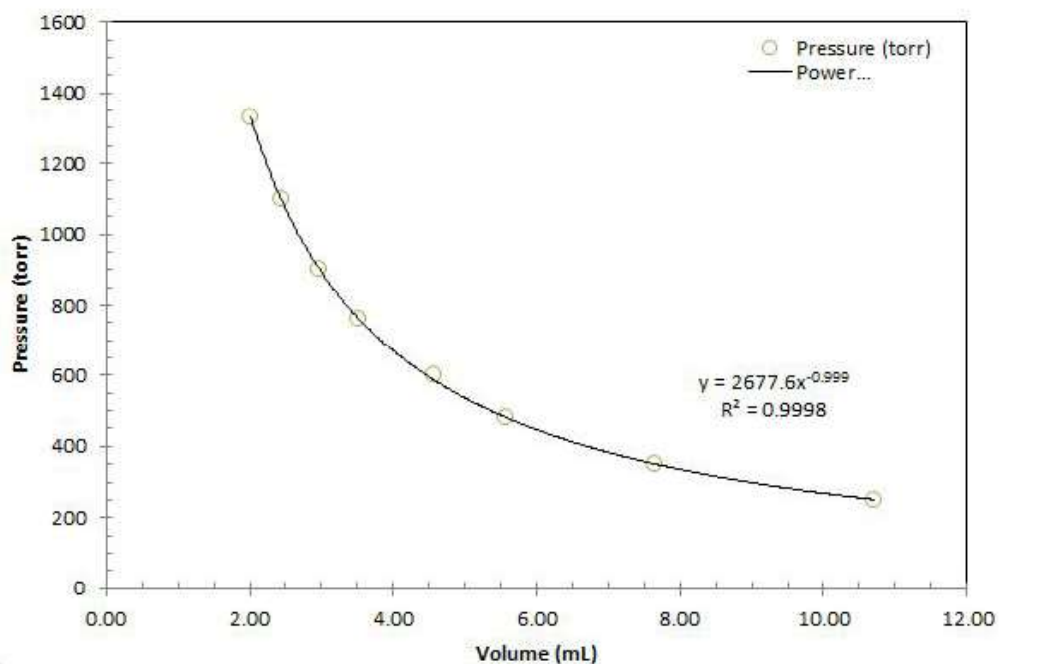

Figure 7.13: Completed computer graph. credit: author
- Take one last look at your graph. It should look similar to the one shown in Figure 7.13. Are there any more changes you need to make? If so make them.